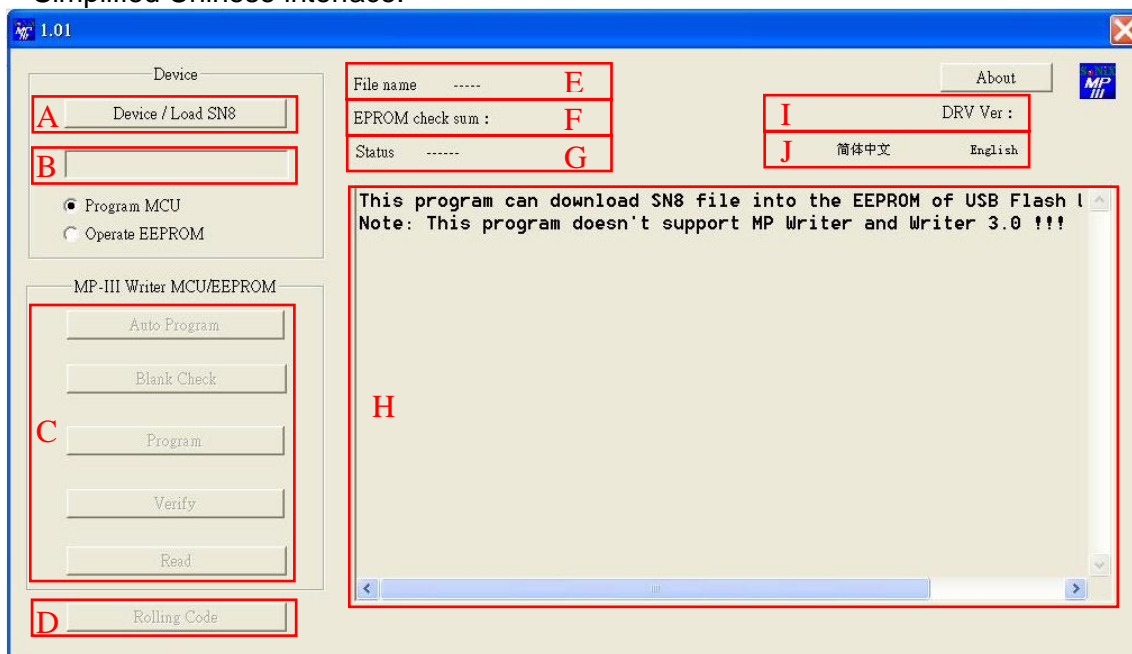

Figure 8 MP-III software opening frame
- If only choose type of chip, choose to cancel programming code, interface will back to opening status, all function button will be invalid, as shown in figure 8.